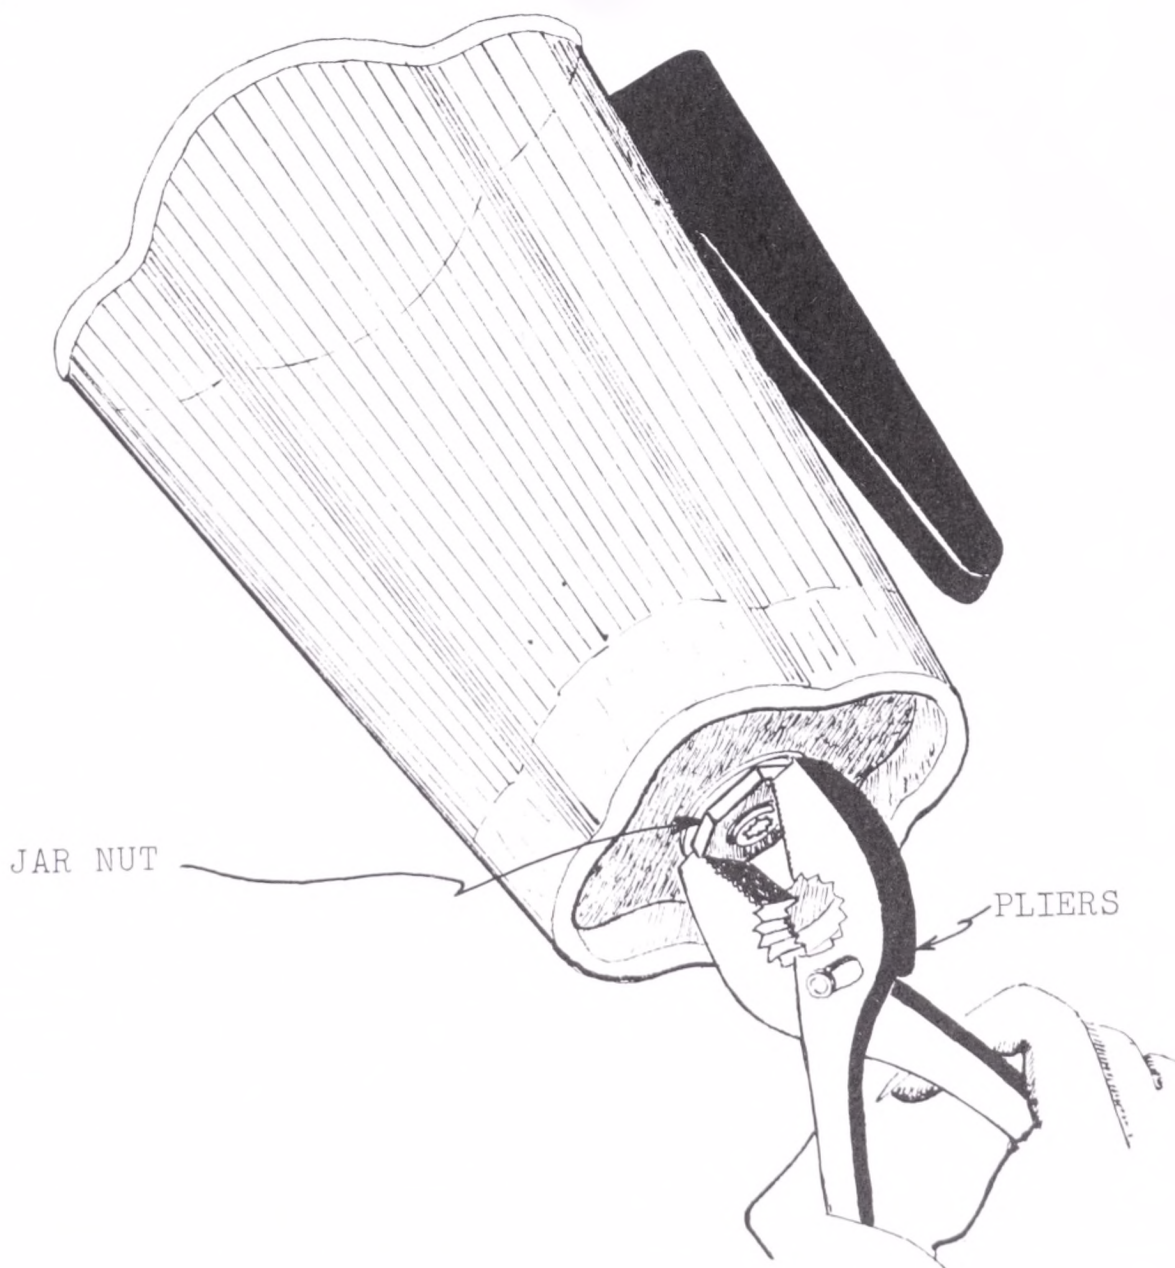

FIG. 5
6. To remove the blade assembly, grasp the bottom jar nut with a pair of pliers and remove it by turning it counter-clockwise. (*Figure 5*)